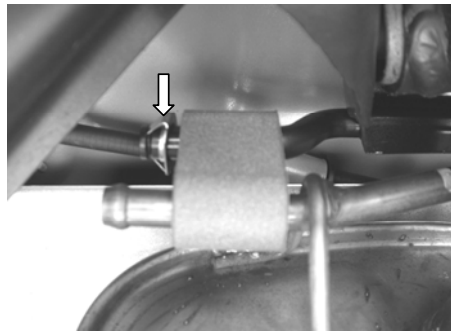

Figure 2
2. Remove locking clips as the one shown in figure 2 from the four hangers located behind muffler assembly.